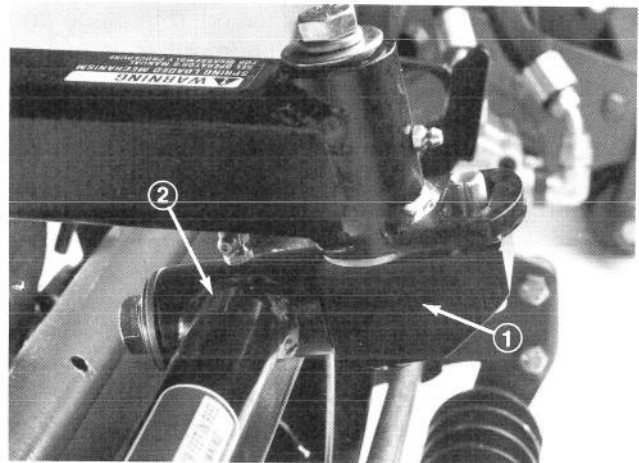

Figure 11
7. Align the mounting shaft of the cutting unit with the pivot tube on the carrier frame. Insert the shaft into the tube (Fig. 11).